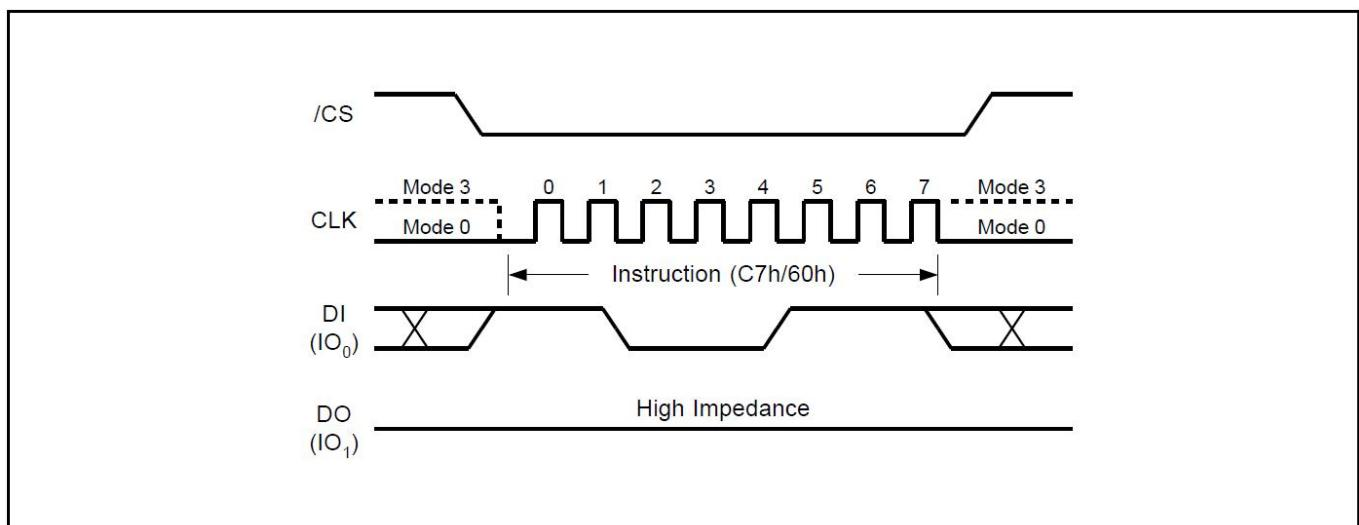

Figure13. Chip Erase Sequence Diagram
The Chip Erase command sequence: CS# goes low → sending Chip Erase command → CS# goes high. The command sequence is shown in Figure13. CS# must be driven high after the eighth bit of the command code has been latched in; otherwise the Chip Erase command is not executed. As soon as CS# is driven high, the self-timed Chip Erase cycle (whose duration is T_{CE}) is initiated. While the Chip Erase cycle is in progress, the Status Register may be read to check the value of the Write in Progress (BUSY) bit. The Write in Progress (BUSY) bit is 1 during the self-timed Chip Erase cycle, and is 0 when it is completed. At some unspecified time before the cycle is completed, the Write Enable Latch (WEL) bit is reset. The Chip Erase (CE) command is executed, if the Block Protect (BP2, BP1, and BP0) bits are 0.